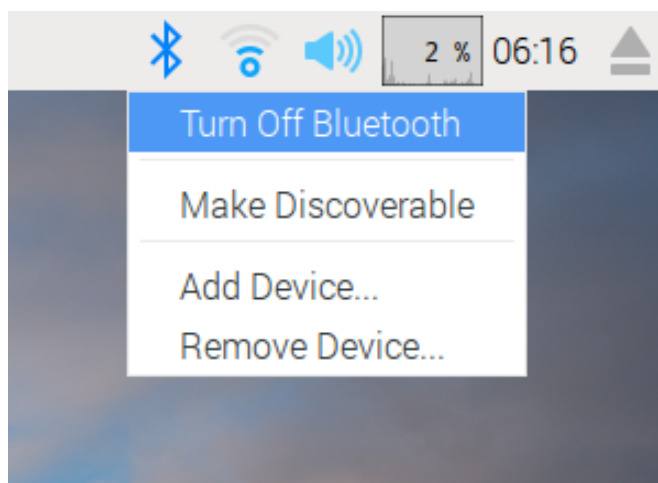

Figure 8: Switch off the Bluetooth® and connect to internet via WiFi
3. After booting the Raspberry Pi, switch off the Bluetooth® interface by clicking on the Bluetooth® button on the right upper corner of the screen (see figure 8). Otherwise it is not possible to use the UART interface of the Raspberry Pi.